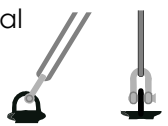

Fig 5
2) Use the bar to install the two ground pegs at positions A and B by twisting them in vertically. You can start them off by making a hole with a screwdriver. Do not use excessive force or you will shear the spiral. If they do not install readily, try backing off slightly and retrying. You could also wet the ground to soften the earth. If you do hit an obstruction you will need to relocate the peg. Ensure that the pegs are fully inserted with the top plates in contact with the ground and the heads pointing roughly to where the post top will be, as shown in Fig 5.